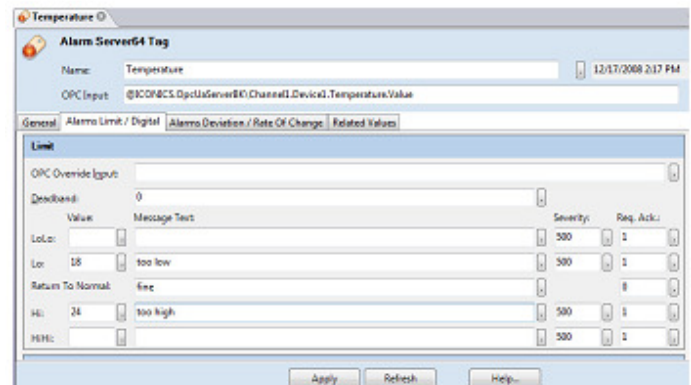

Figure 11 - Creating a Limit/Digital Alarm
- Click on the **Alarms Limit/Digital** tab and configure the **Limits** as shown in Figure 11 and click Apply.